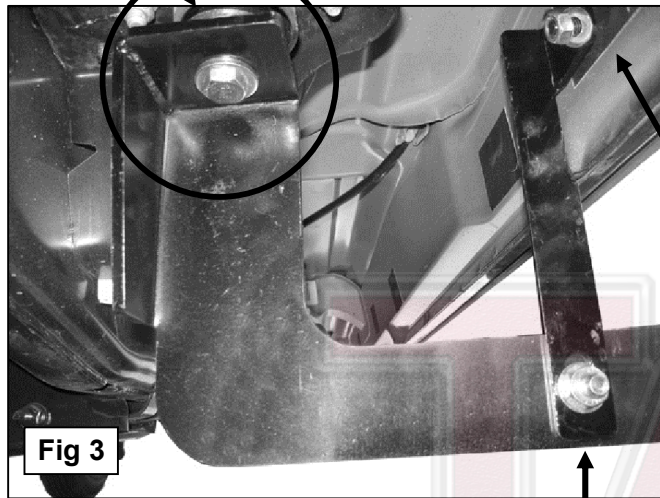

Fig 3
- Select the driver side front Mounting Bracket. Insert (1) 12-1.75mm x 120mm Hex Bolt with (1) 12mm ID x 32mm OD x 3mm Flat Washer and (1) 12mm Lock Washer through the Mounting Bracket. Place (1) Spacer Plate onto the 12mm Hex Bolt then slide the rubber bushing onto the Hex Bolt. Make sure that the Spacer Plate is between the Mounting Bracket and the factory rubber bushing, **(Figure 3)**. Hold the front Mounting Bracket, (with hardware, factory washer and rubber bushing), up in position and hang it from the body mount by threading the hex bolt into the body mount. Snug but do not tighten hardware at this time. **IMPORTANT:** On 05 and newer model years, the large washer on the factory body mount bolt is removable, (do not discard-must reinstall), and the bolt is long enough to go through the Mounting Bracket and properly thread into the body mount. It is the installer's responsibility to check length and to determine whether to use the factory or replacement hex bolt.
6. Locate the driver side front Support Bracket (long) and attach it to the Bolt Plate with (1) 10mm Lock Washer, (1) 10mm Flat Washer and (1) 10mm Hex Nut, **(Figure 3)**. **NOTE:** Place Support Bracket against the front facing side of the Mounting Bracket with the bent tab facing towards the **front** of the vehicle. Snug but do not tighten hardware at this time.
7. Attach the lower end of the front Support Bracket to the Mounting Bracket using (1) 10mm x 30mm Hex Head Bolt, (1) 10mm Lock Washer, (2) 10mm Flat Washers and (1) 10mm Hex Nut, **(Figure 3)**. Do not tighten hardware at this time.